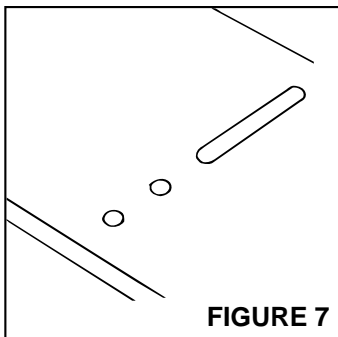

FIGURE 7
2. Refer to Figures 7 and 8. For rough-in frames which are **recessed into the wall opening**, insert two (2) shoulder screws (provided) into the front two holes in the rough-in frame. **For rough-in frames which are mounted flush with the wall**, insert two (2) shoulder screws (provided) into the back two holes in the rough-in frame.